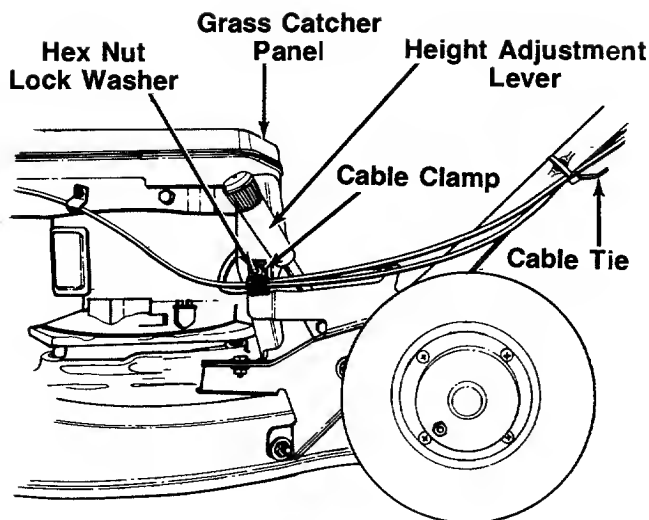

FIGURE 7.
2. **Models 115R thru 119R:** Remove the top hex lock nut and flat washer on the side of the grass catcher panel. Attach the cable clamp as shown in figure 7. Secure with flat washer and hex lock nut.